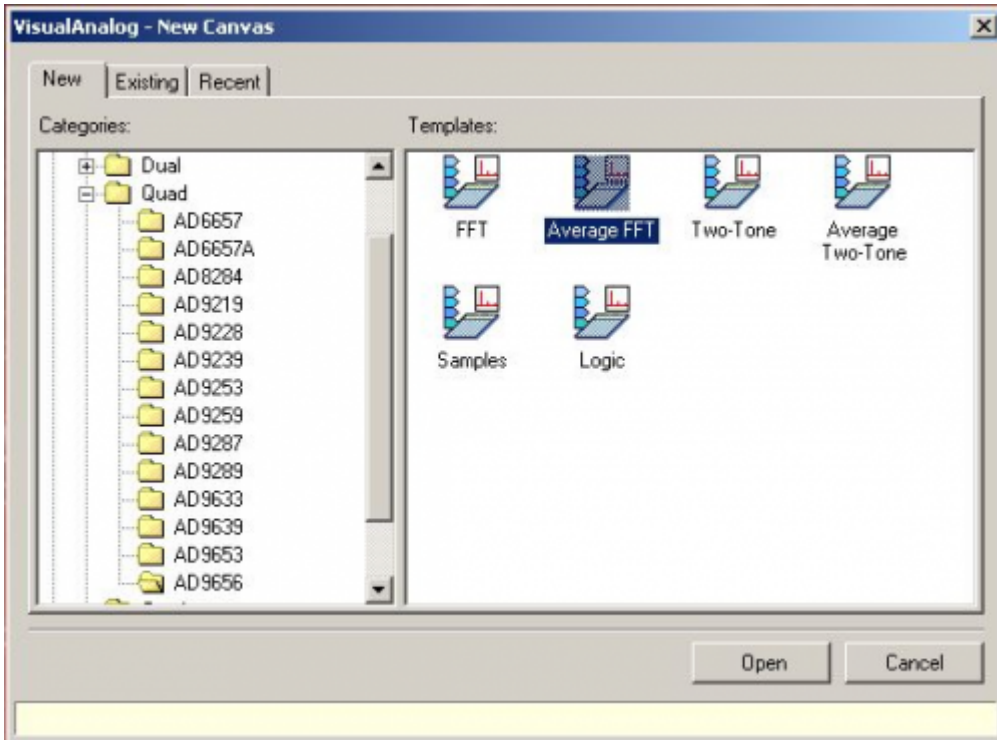

Figure 3. VisualAnalog, New Canvas Window
1. Start VisualAnalog on the connected PC. The appropriate part type should be listed in the status bar of the **VisualAnalog - New Canvas** window. Select the template that corresponds to the type of testing to be performed (see Figure 3). Average FFT is a good test to start with.